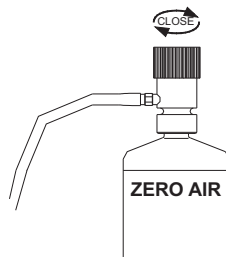

Figure 10
10. Turn off the regulator and disconnect the tubing from the zero air regulator (Figure 10).